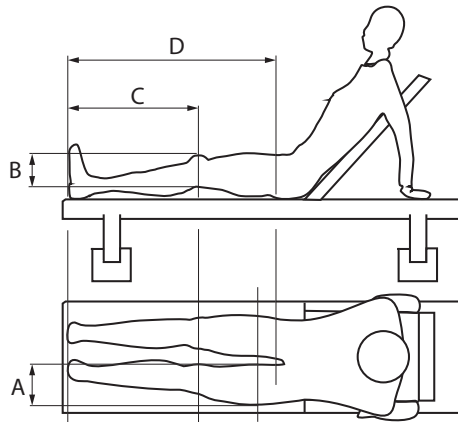
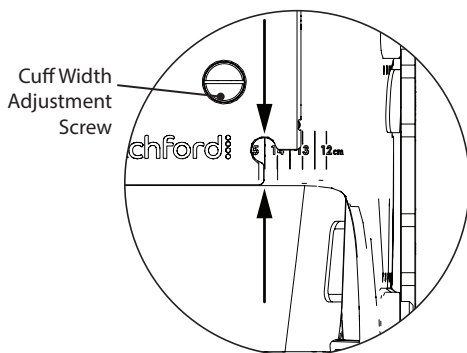

Fig. 13
Fig. 14
1. Position the user as shown in Fig. 13, sitting comfortably on a horizontal examination table.
3. Measure the following dimensions (refer to Fig. 13) with the affected leg lying horizontal, and include clothing thickness in the measurements:
5. Loosen the lower thigh cuff and calf cuff width adjustment screws and slide the cuff sides together or apart equally as required to set the cuff width to the user's maximum thigh width A (see Fig. 13) using the centimeter scale on each cuff, then tighten each adjustment screw to 5 Nm torque to lock in position. See Fig. 14 for how to read the cuff scale.
Note... Cuff scales are read at the arrow position shown in Fig. 14, where the inner vertical edge of the outer cuff (directly below hole center) lines up with the scale on the inner cuff. Example shown is a lower thigh cuff width setting of 14.5 cm.
2. Slide the medial and lateral extension bars at the same time out/in to increase/decrease respectively the brace knee height equally on the medial and lateral sides, until the knee and follower joint centers are at the same required vertical height (measurement C in Fig. 13 minus the calculated offset).
2. Raise/lower the upper thigh cuff and strap by loosening the extension lock screws on the lateral upper extendable knee side-bar's, and slide the bar so that the upper thigh strap on the medial side is approximately 5 cm below the groin (equal to the user's inside leg measurement D in Fig. 13).